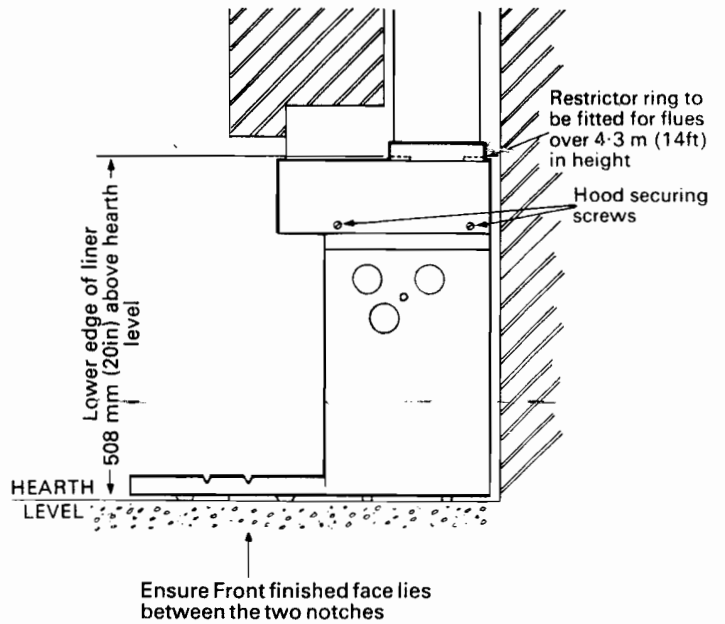

Fig. 4. Boiler in Builders Opening
If the flue exceeds 4.3m (14ft) in height the restrictor ring which is supplied with the unit will generally be required. (Fig. 4)
Fitting the boiler (Fig. 4)
4. Lift the boiler off the transit base. Place the boiler in the builders opening, and remove the heat shield over the controls. Check that the front finished face lies between the two notches on the sides of the boiler base (Fig. 4) and that the arrowhead cut out at the front is on the centre line of the heart. With the boiler now in position drill directly through the fixing holes and secure with the plugs and screws provided (see page 15).